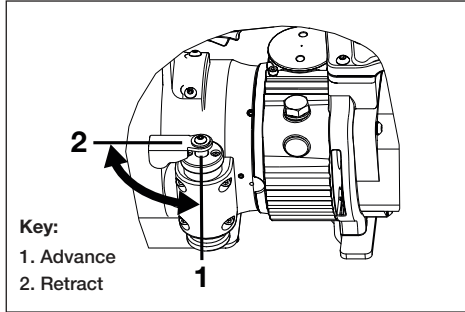

Figure 4, Directional Lever Positions
The directional lever is located on the left side of the tool. The lever position determines the piston direction of travel when the cutter is operated. See Figure 4.
6. Be sure that the directional lever is in the advance position. See Figure 4.
9. Move the directional lever to the retract position. See Figure 4.